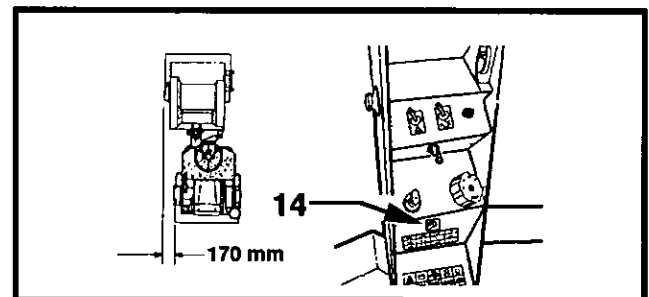

Figure 4-18 Drum Offset Adjustment Control Switch
1. To adjust the drum offset, it is recommended to move the machine slowly while operating the Offset control switch (14, Figure 4-18).
1. Switch OFF vibration control switch (3, Figure 4-18).